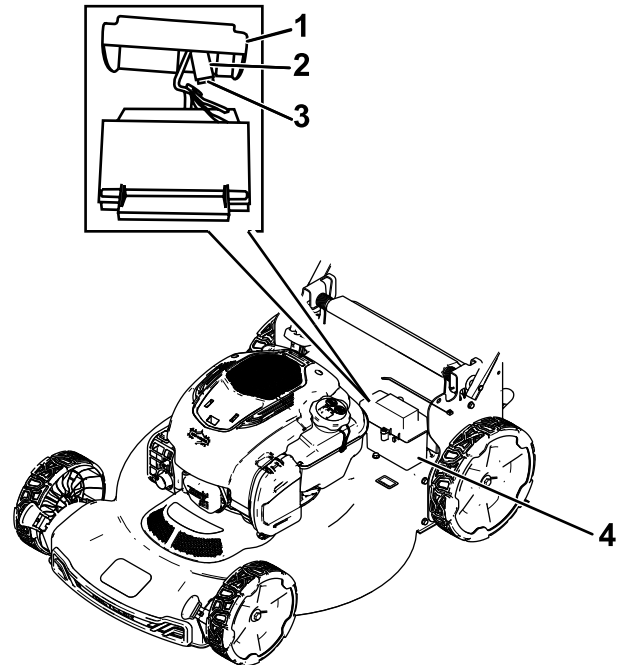

Figure 26
1. Remove the cover from the battery compartment (Figure 26).
2. Pull out the battery and locate the fuse (Figure 26).
3. Replace the fuse in the fuse holder (Figure 26).
4. Install the cover over the battery compartment (Figure 26).